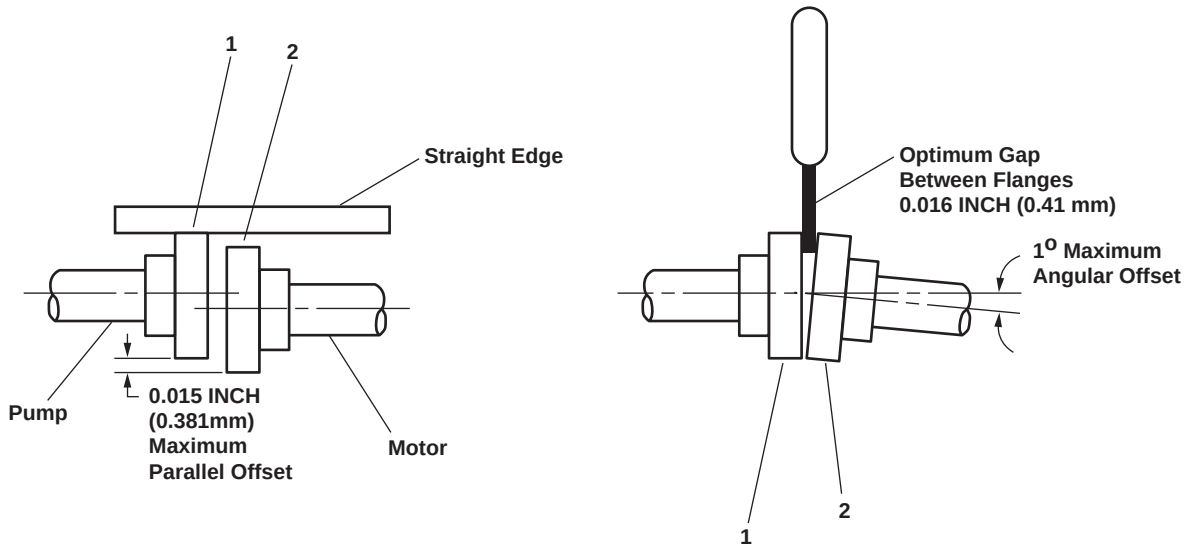

Figure 4. Alignment of Pump Coupling Flange and Motor Coupling Flange
4. Align the pump coupling flange (figure 4, item 1) and the motor coupling flange (figure 4, item 2) together leaving approximately 0.016 inch (0.41 mm) space between the ends of both flanges. Refer to figure 4.
5. Check the alignment between the pump coupling flange (figure 4, item 1) and the motor coupling flange (figure 4, item 2).
6. The maximum angular offset shall be 1 degree and maximum parallel offset shall be 0.015 inch (0.381 mm). Refer to figure 4.